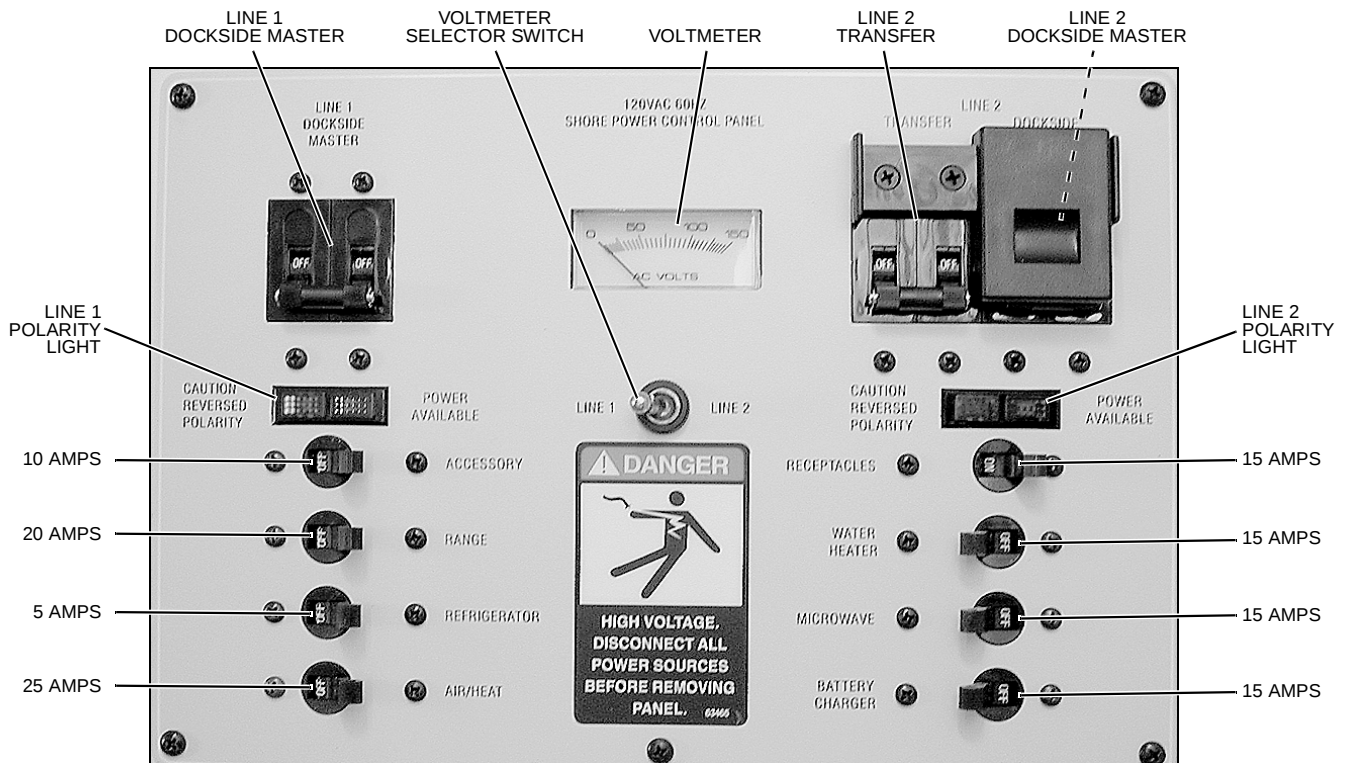

FIGURE 1
- **The amperage of each component breaker is shown in figure 1.**